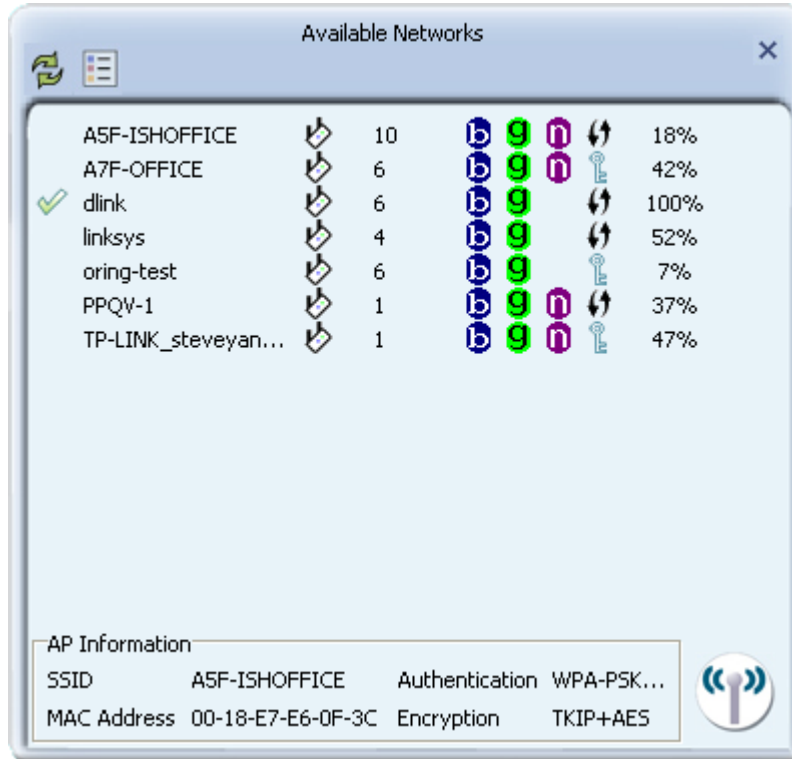

Figure 1-8: Available Networks
Step 2: Click the search button  to search the available wireless networks, as shown in **Figure 1-8**.